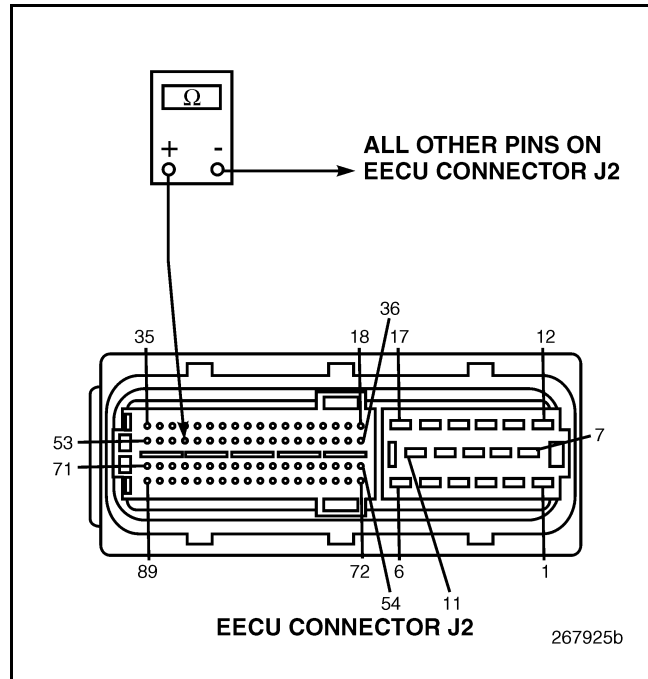

Figure 184
4. Check for continuity between EECU harness connector J2 pin 50 (signal line) and all other pins in EECU harness connector J2 (see Figure 184).